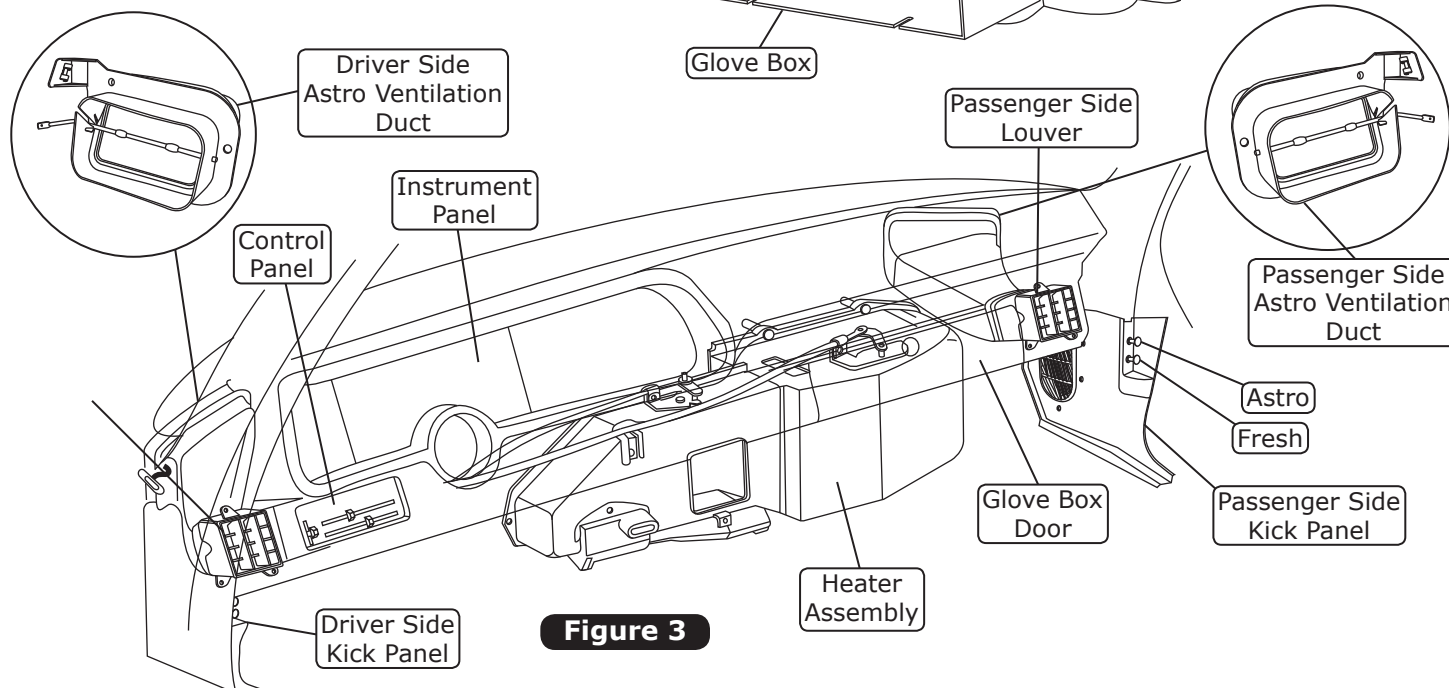

Figure 3
1. Remove the glove box door (See Figure 3, below).
3. Remove the heater assembly and all related ducting (discard, but retain screws) (See Figure 3, below).
4. Remove the driver/passenger side louver outlets (retain). **NOTE: The instrument panel must be removed to get to the left outlet and the control panel (See Figure 3, below).**
5. Remove the control panel assembly (discard) (See Figure 3, below). **NOTE: Refer to the control panel conversion kit instructions for installation of the controls.**
6. Remove the passenger side kick panel (retain) (See Figure 3, below).
7. Disconnect the passenger side fresh air cable from the panel (See Figure 3, below).
8. Disconnect the driver/passenger cable astro ventilation ducting (discard) (See Figure 3, below).